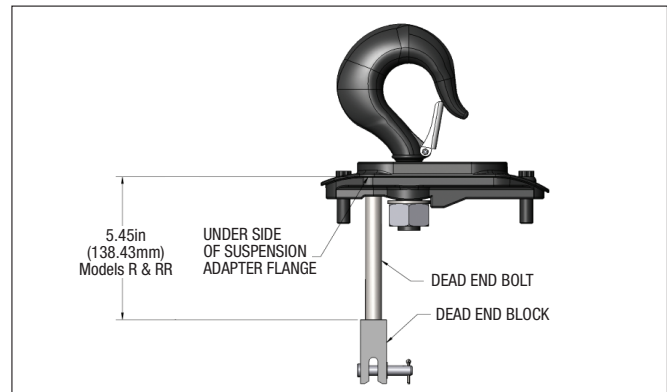
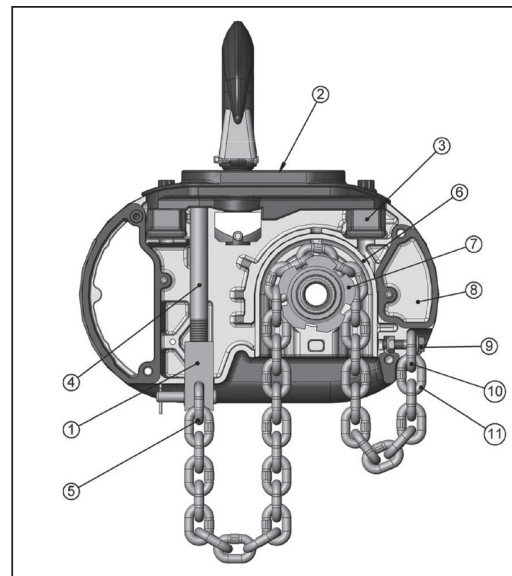

Figure 3. Double Reeved Suspension Assembly
Figure 4. Suspension Components
Remove the hook suspension, (2) suspension screws, (1) dead end pin, (1) washer, and (1) cotter pin from the packaging. It should be noted that the suspension includes a dead end bolt and block for supporting the dead end of the load chain as shown in Figure 3. Place the suspension assembly into the recess on top of the hoist. The dead end block should project through the bottom of the hoist with the pin hole and slot aligned to the underside of the hoist as shown in Figure 4.
Check the position of the pin hole in the dead end block to make sure it has not been disturbed from its factory setting. The distance from the top of the pin hole to the bottom of the hoist should not exceed 7/16" (11.11 mm) for the Models R and RR. If the distance is not correct, adjust the position of the dead end block to obtain the proper distance (see Figure 3).